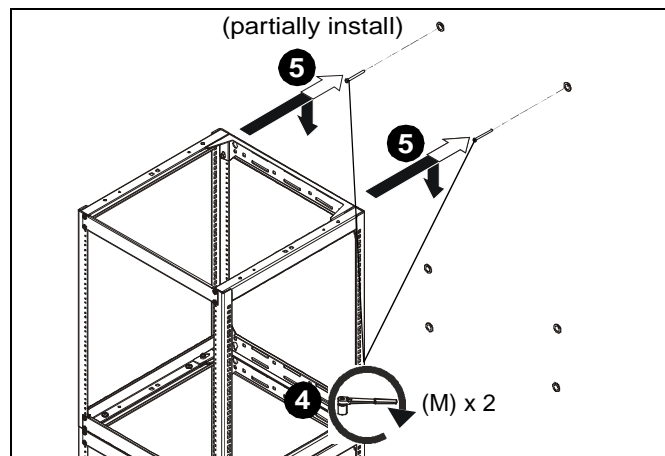

Figure 22
4. Partially install two 5/16" x 3 1/2" lag bolts (M) into upper holes. (See Figure 22)
5. Hang rack onto bolts. (See Figure 22)